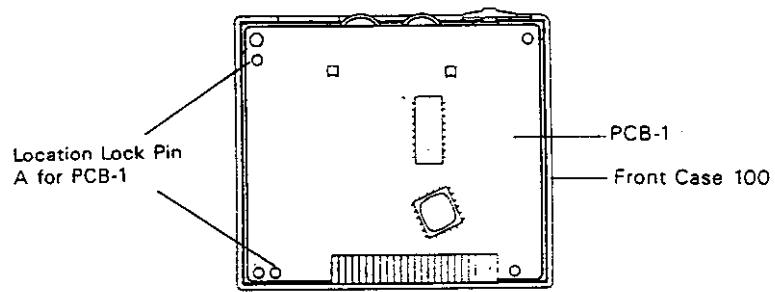

Fig. 2
3. Hold rear case (200) side and pull out front case (100) in the vertical direction to remove from front case. Fig. 2
1. Remove the Video Circuit PCB(PCB-1) from the two location lock pin (A). Fig. 2